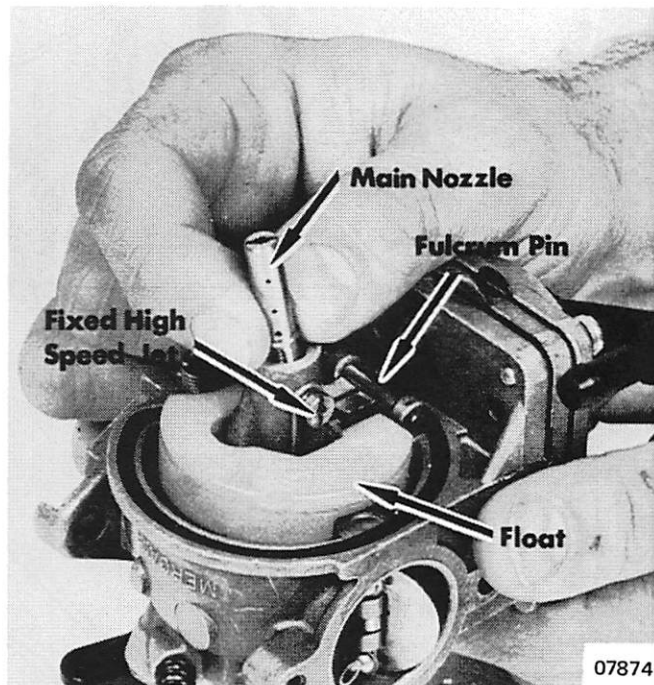

Figure 3. Float Removal
2. Remove float fulcrum pin and float. (Figure 3)
4. Remove fixed high speed jet. (Figure 3)
5. Using a screwdriver of proper width, remove main nozzle. (Figure 3)
2. Using a screwdriver of proper width, install and tighten main nozzle. (Figure 3)
4. Install float and float fulcrum pin. (Figure 3)
5. Insert fixed high speed jet as shown in Figure 3.